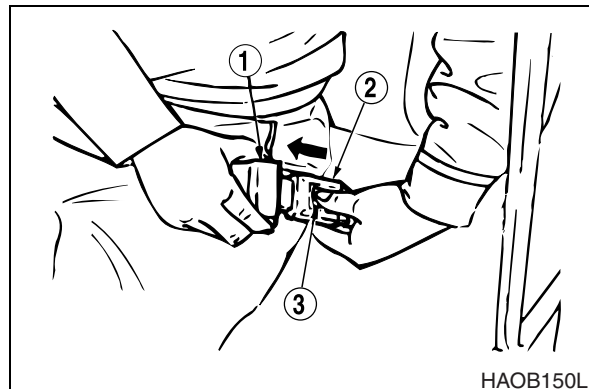

Figure 99
Press button (3, Figure 99) in center of buckle (2) and pull out belt (1) to unlock.